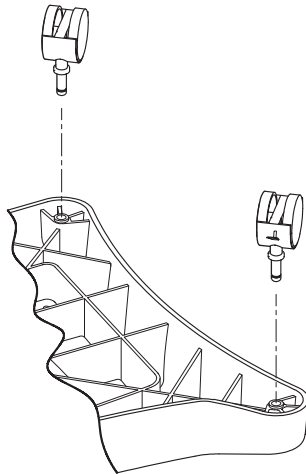

Figure 1
1. **For Stationary Cart Assembly:** Use the template on page 19 to locate and pre-drill the three screw holes into wood or concrete for the cart base. If applicable, drill the 1 1/2" gas line access hole. **DO NOT** secure base with the screws at this time. **For Mobile Cart Assembly:** Flip plastic base and insert casters by inserting the pin provided with the casters in the proper hole. It is recommended that the two casters with brakes should be in the front of the base. See Figure 1.